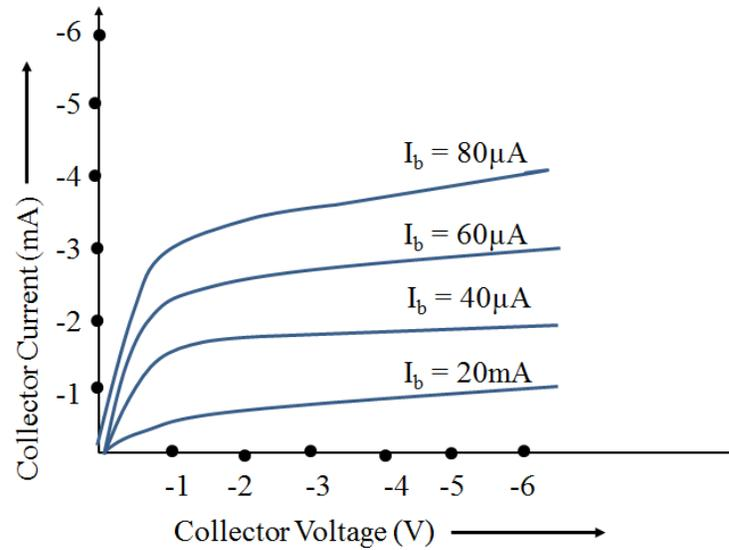

Figure 6. Output characteristics of collector current versus collector voltage
- (iv) Plot curves between collector current and collector voltage as shown in figure 6.